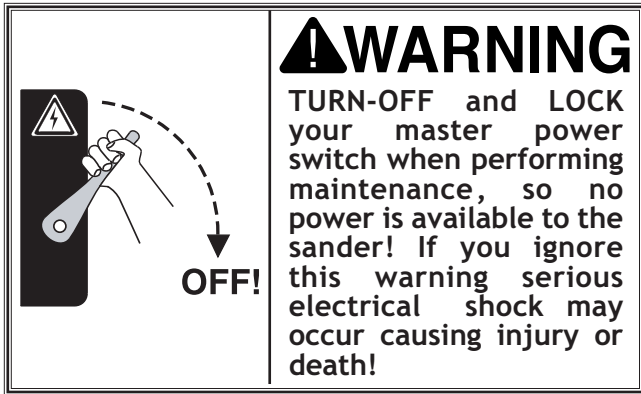

Figure 29. Operator feeding workpiece in correct body position and out of the way of potential kickback.
10. Start the conveyor, stand to the side as shown in Figure 29, and feed the workpiece into the sander.